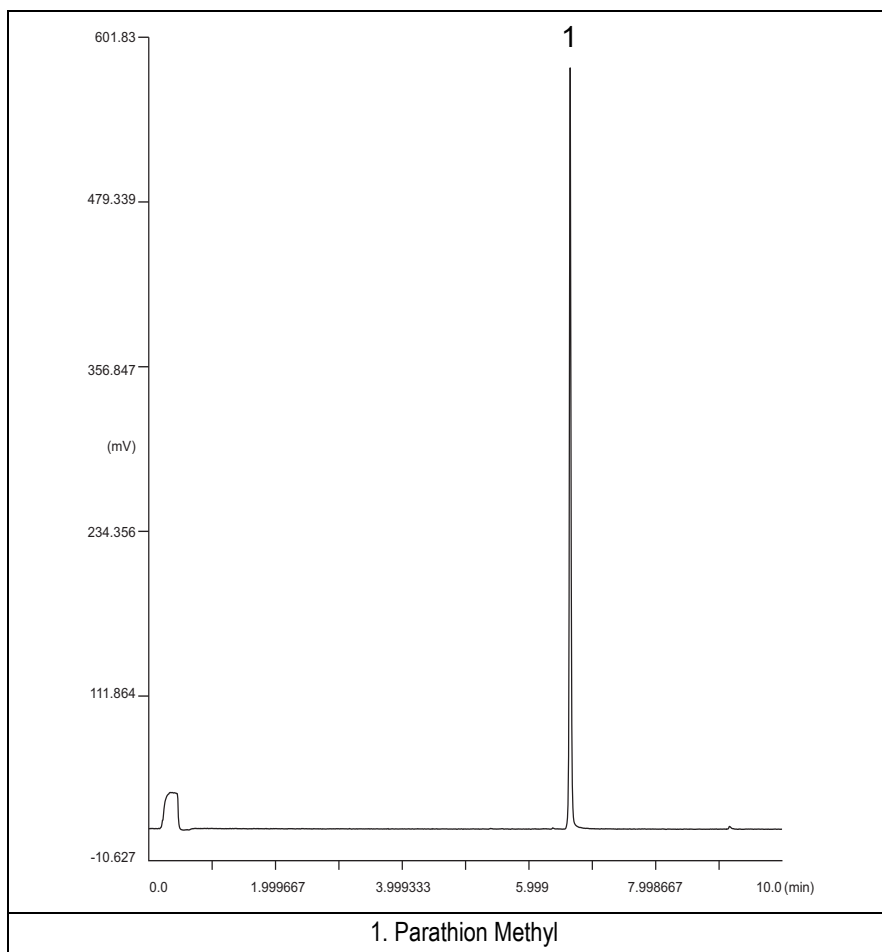

Figure 20-1. FPD-PPKD Injection with 526 nm filter
13. When the GC is ready, inject the test mixture and press **START** on the GC to begin the checkout run. The resulting chromatogram should look like the one shown in *Figure 20.1* or *20.2*.